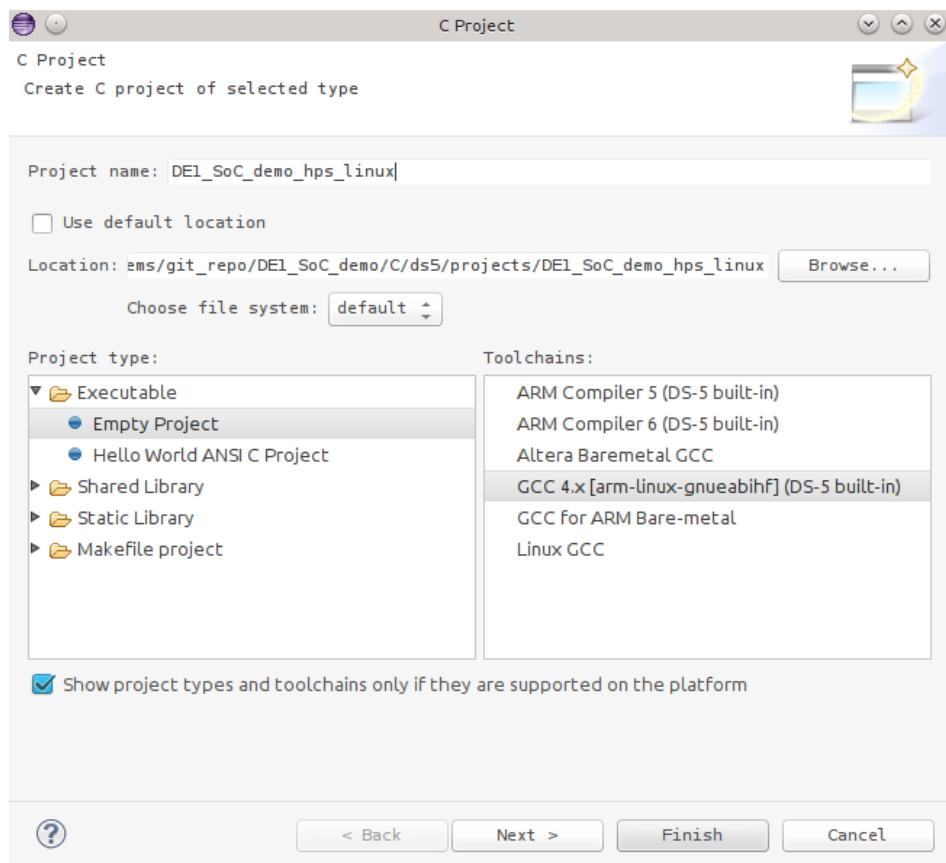

Figure 8-43. New C Project Dialog
- f. You should have something similar to Figure 8-43. Then, press the “Finish” button to create the project.